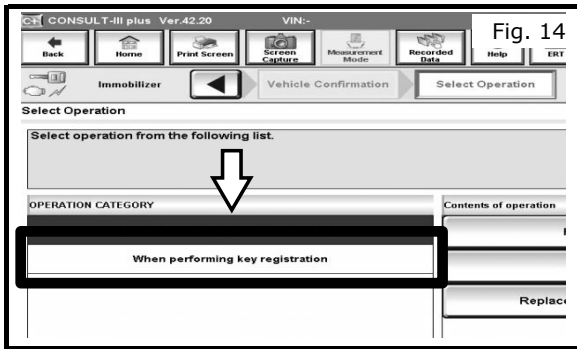

Fig. 14
- a) Once the system call is complete, you will enter the Select Operation screen will as shown in Fig. 14.
- b) Under OPERATION CATEGORY menu click "When performing key registration" as shown in Fig. 14.